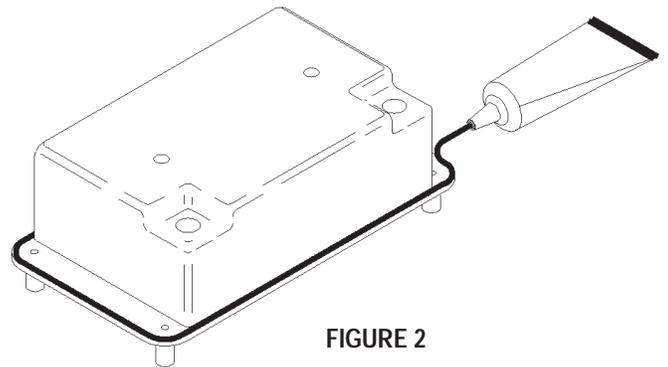

FIGURE 2
- 3) Using *GE Silicone II* or a sealant with equal properties, lay a small bead around the housing as shown in Figure 2. This bead must be placed on the outer edge of the housing to ensure a proper and effective seal.